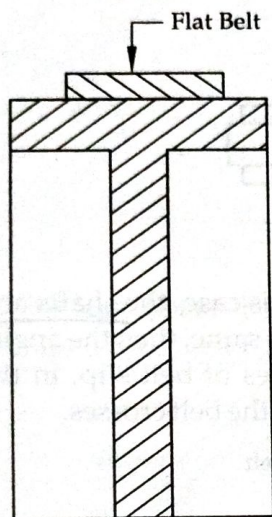

Fig. 2
1. **Flat Belt:** A belt having rectangular cross-section is known as a flat belt as shown in Fig 2. It is mostly used in factories for moderate power transmission from one pulley to another at a distance not more than 8 meters. In this case, rim of the pulley is slightly crowned as it helps to keep the belt running centrally on the rim of the pulley.